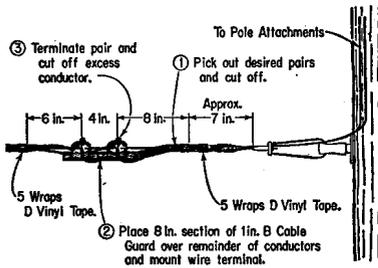

Figure 9
5.01 Multiple line wires can have up to two wire terminals at dead-end poles as shown in Figure 9.